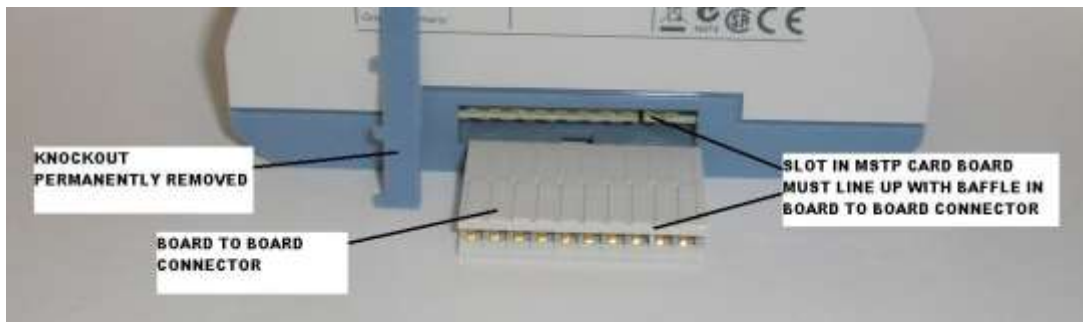

Figure 17. BACnet Communication Module and Knockout
The Board-to-Board Connector connects the Unit Controller to the BACnet Communication Module (see Figure 17 and Figure 18).
3. Figure 17. BACnet Communication Module and Knockout
6. Insert the board-to-board connector into the BACnet Communication Module (Figures 17 and 18). Note that it only fits one way and that the baffles must line up with corresponding slots in BACnet Communication Module and the unit controller (see Figures 18 and 19).